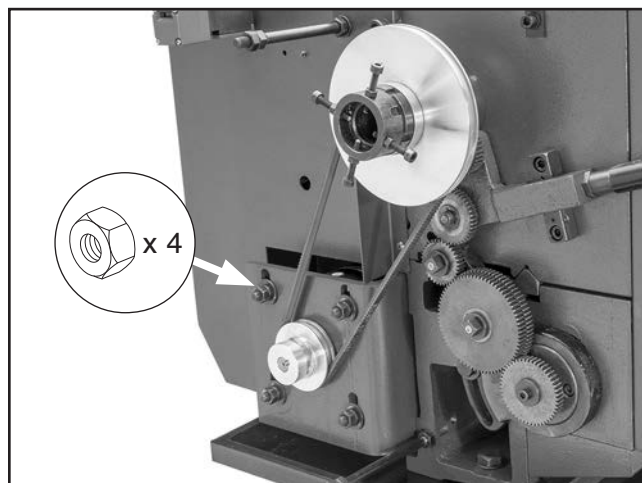

Figure 75. Location of V-belt tension hex bolts.
4. Loosen (4) hex nuts shown in **Figure 75** to take tension off of V-belt.